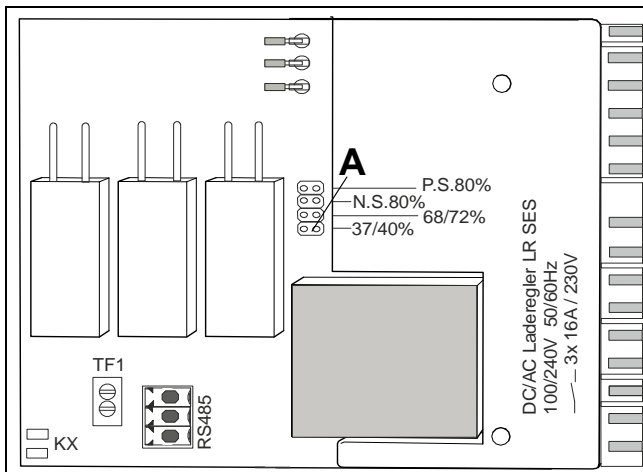

Fig. 23: Charge regulator with program jumper (A) ED signal
If the storage heater is operated on other ED systems, then the program jumper (A) Fig. 23, must be plugged in at the appropriate position.